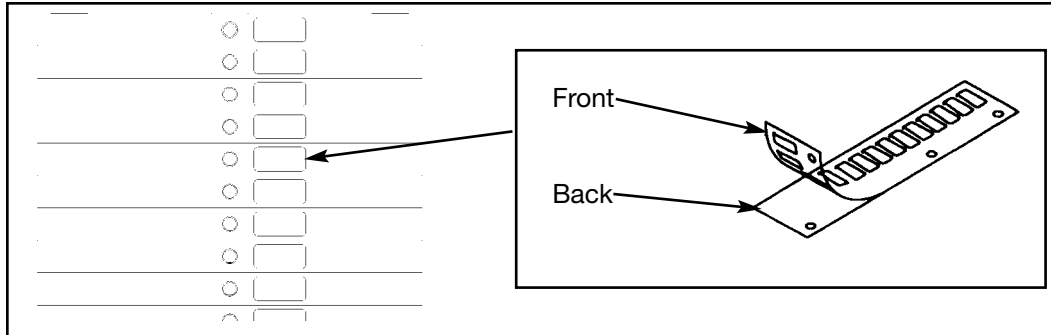

Figure 11
**6. Install weight plate decals** (see steps 5A - 5E and Figure 11).